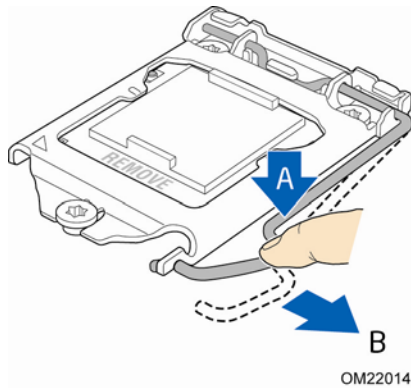

Figure 6. Unlatch the Socket Lever
2. Unlatch the socket lever by pushing the lever down and away from the socket (Figure 6, A and B).